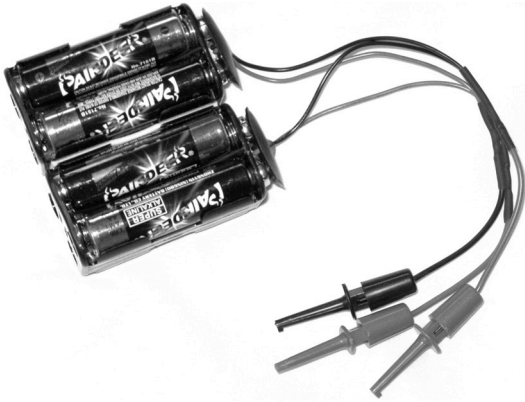

Fig. 3—Dual 6-V (nominal) supply
- A dual 6-V (nominal) battery supply (Fig. 3).